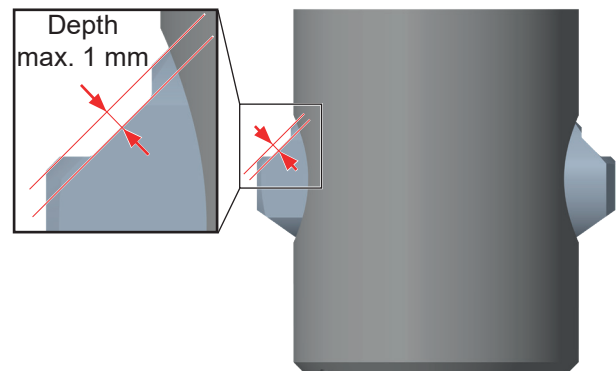

Fig. 13: Maximum wear occurrence depth 1 mm
- Check for wear on support elements: Fig. 13 shows an example of wear occurrence. The position, length and depth of the depression can vary depending on the usage case. **However, only the depth needs to be considered during the inspection.** As a reference, the depth to the deepest line is measured starting from the top line. This distance may not exceed 1 mm. Otherwise, the PIP-RAPIDO must be taken out of service.